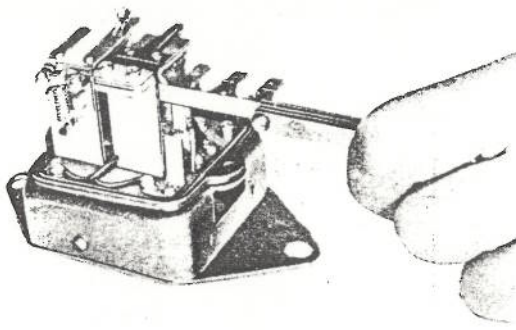

Fig. 10-14
2) Check the point gaps and if necessary adjust them according to "maintenance Standard" (See Figs. 10-14 through 10-16). The adjustment should be made in the